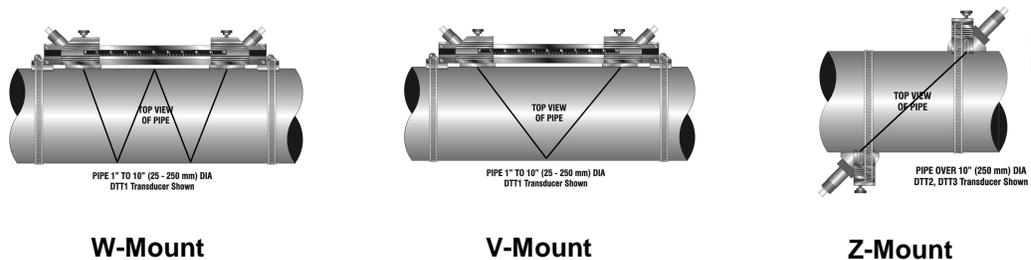

Figure 1.1
- B. Select a mounting method for the transducers, based on pipe size and liquid characteristics. See **Figure 1.1**. Select **W-Mount** for plastic pipes flowing clean, non-aerated liquids in the 1-3 inch [25-75 mm] internal diameter range. Select **V-Mount** for pipes of all materials and most liquids in pipe sizes from 1-10 inches [25-250 mm]. Select **Z-Mount** for pipes larger than 10 inches.
B. Attach the transducer mounting rail or saddles to the pipe at the location(s) determined in Step 1. Refer to **Figure 1.1** for proper orientation.